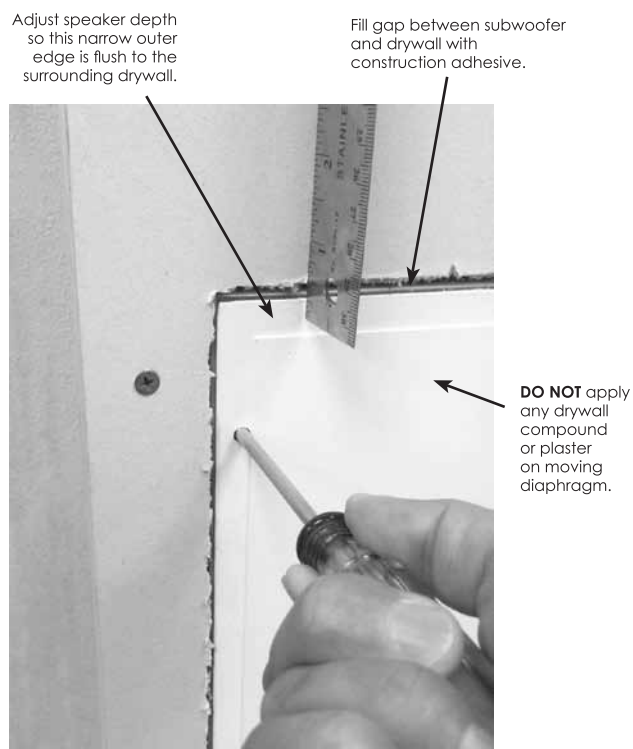

Figure 5
5. Use a screwdriver and the supplied square-drive to manually adjust the speaker so the outer edge of the diaphragm is perfectly flush to the surrounding wall. **See Figure 5. Note:** It is not the moving area of the diaphragm, but the lower edge that must be flush to the drywall.